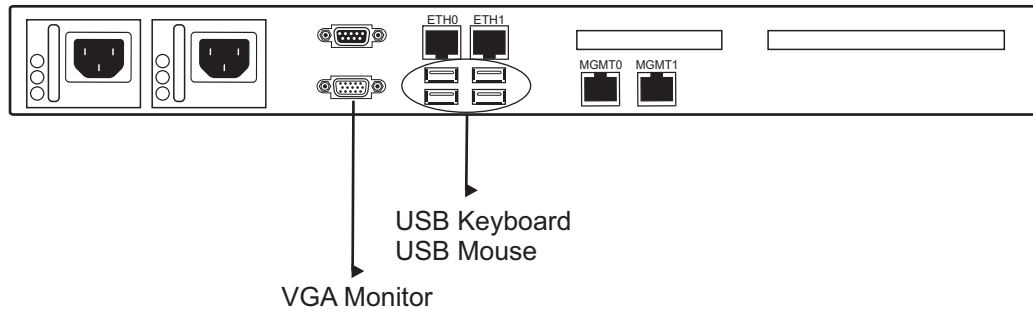

Figure 9.3 USB to DB9 Adapter
1. Connect a VGA monitor to the VGA port of the 7800-CTRL. Connect a USB keyboard to an available USB port on the 7800-CTRL. Do the same for a USB mouse See figure 9.3 on page 59.